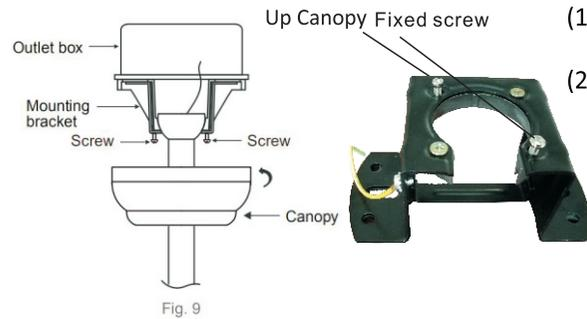

Fig. 9
(2) Rotate the motor assembly until the "Check Tab" on the mounting bracket has dropped into the "Registration Slot" on the hanging ball and seat firmly (Fig.7 Fig.8 Fig.9)